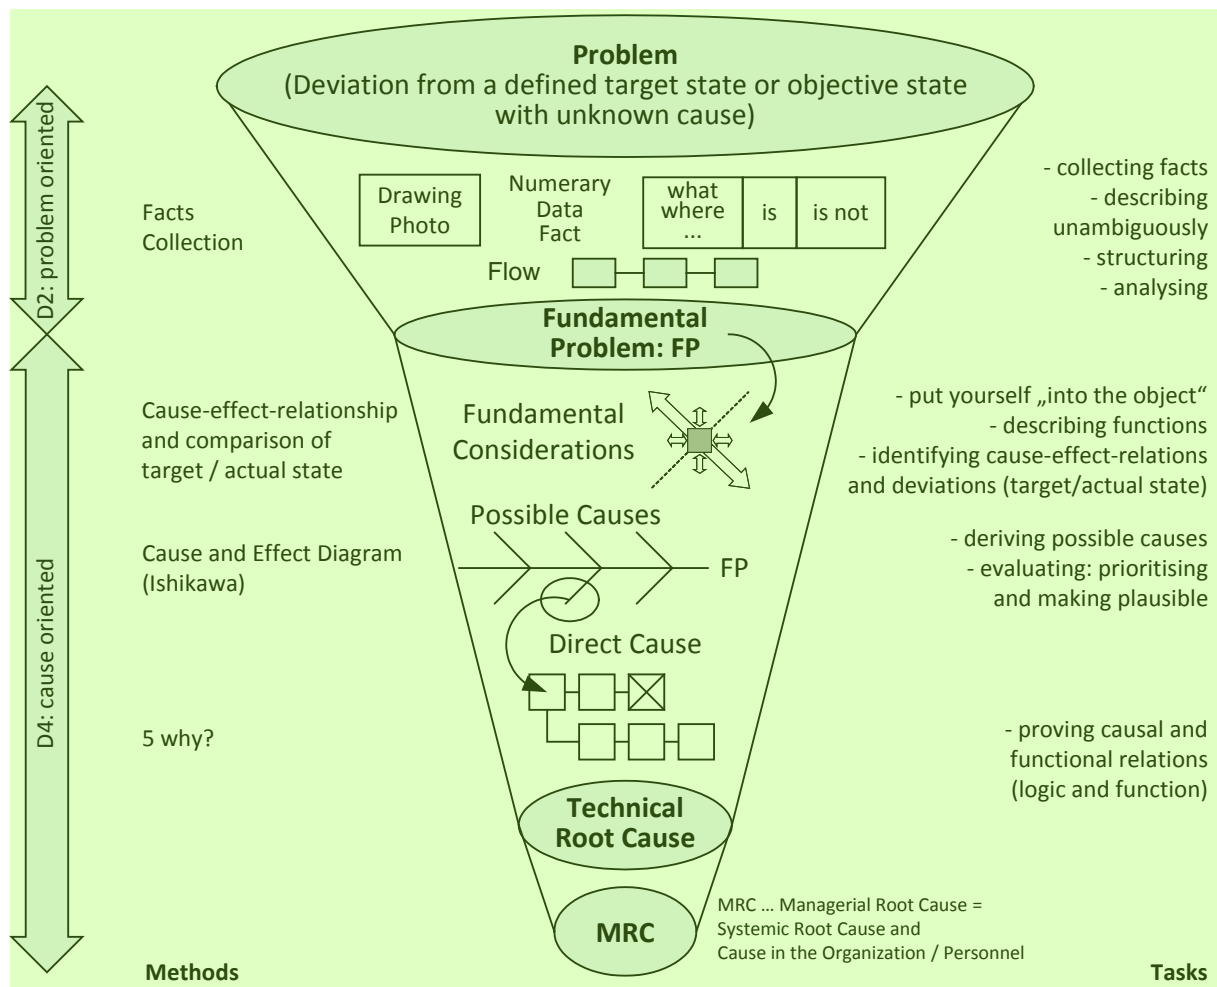

Figure 3.2: Bosch problem solving funnel 6
- The **procedure for problem solving** forms the core of the methodology. The steps correspond to the procedure used in the 8D method (see Appendix 1). They are adapted to the different problem areas (product problems, process problems, problems in the indirect area) and the contents detailed with regard to some subtasks. The basic procedure (see figure 3.2 problem solving funnel) can be applied, however, regardless of complexity and the problem area.8
As explained in section 2 "principles for problem solving", the problem description (D2) and the cause-effect analysis (D4) comprise the decisive steps in the procedure. These are summarized and represented in the **Bosch problem solving funnel** (figure 3.2). The main **tasks** are explained below. The associated basic **methods** are described in section 4. Section 5 describes in detail the specifications of the procedure in different **problem areas**. The focus is on the description of the procedure for **product problems** – presented in the form of guidelines (section 5.3).
The fundamental problem solving methods are listed in the problem solving funnel (figure 3.2)2 allocated to the corresponding tasks. These methods help in the systematic procedure and structure the basic issues and results.
are documented in tabular form under the so called "Is"-column. The problem is thus **described clearly and in a structured manner** based on **facts** (no suspicions or opinions) (see tasks in the problem solving funnel, figure 3.2).6